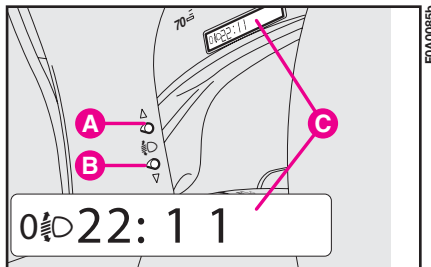

fig. 139
– hold button **B-fig. 139** pressed to increase by one position (e.g.: 0 → 1, 1 → 2, 2 → 3);